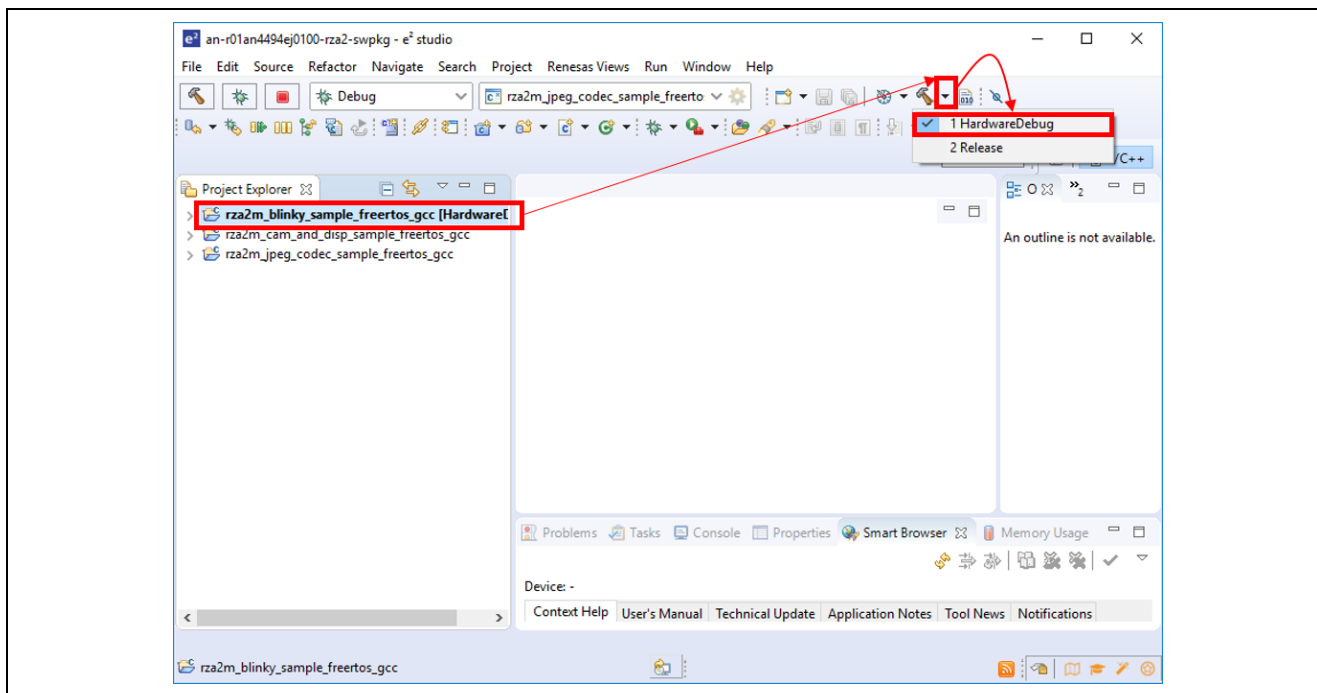

Figure 3-8 Build the target project
- Select your target project by left clicking on it, then click the arrow next to build button (hammer icon) and select 'HardwareDebug' from the drop-down menu. From next time, user can build the project by this Build button (hammer icon). This is shown in Figure 3-8.